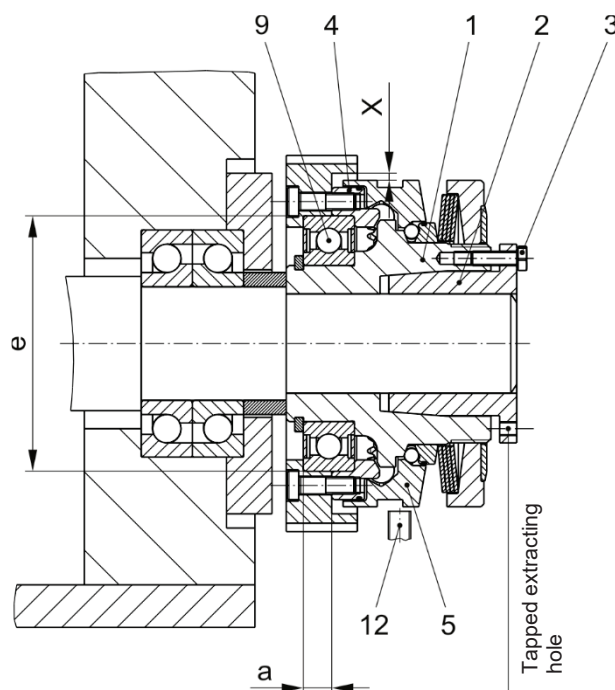

Fig. 8
**In order to prevent the output element (pressure flange (4)) from moving axially in the direction of the thrust washer (5) during overload, please make sure that the bearing of the output element is designed as a locating bearing (Fig. 8).**
Output elements which protrude over the thrust washer (5) (see Fig. 8) must be designed with sufficient radial air.